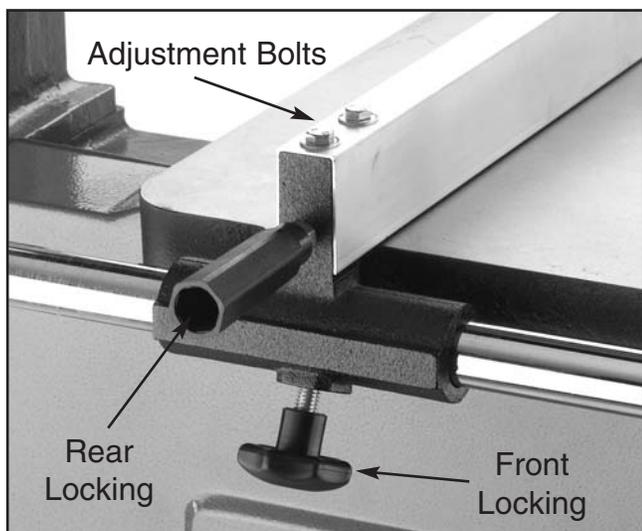

Figure 35. Fence controls.
Fence locking is controlled by turning the two handles on the front of the fence. The straight handle controls the locking clamp on the back rail and the star knob controls the locking clamp on the front rail. See **Figure 35** for control locations. Both of these knobs must be loosened when moving the fence.
If your fence does not clamp square, the adjustment bolts shown in **Figure 35** can be loosened to allow you to slightly adjust the fence one way or another. When the fence is in the desired position, tighten the bolts to lock it in place.
4. Loosen the two skewing cap screws on top of the fence. **Figure 35.**